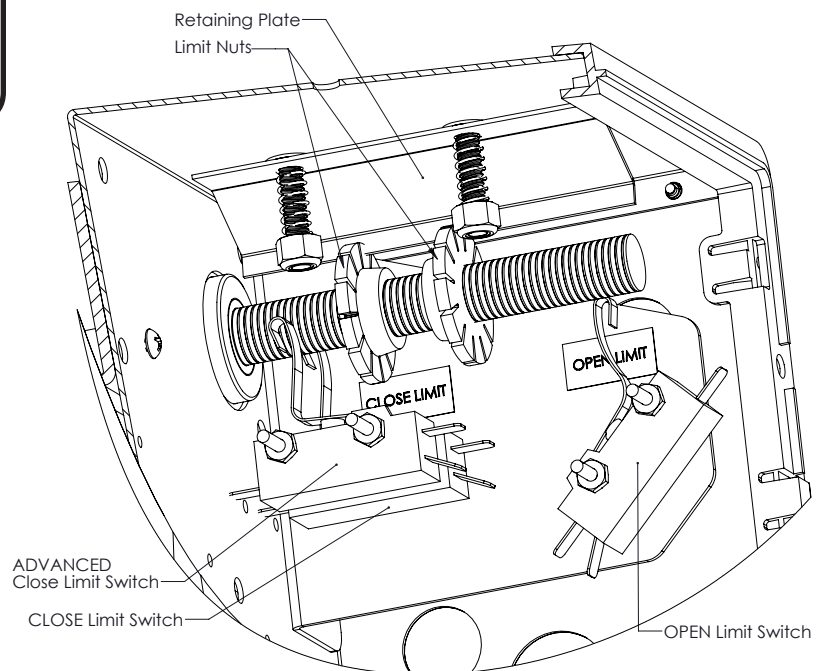

FIGURE 8
4. Repeat Steps 1 and 2 for close cycle. Adjust close limit nut so that actuator is engaged as door fully seats at the floor. (Figure 8)